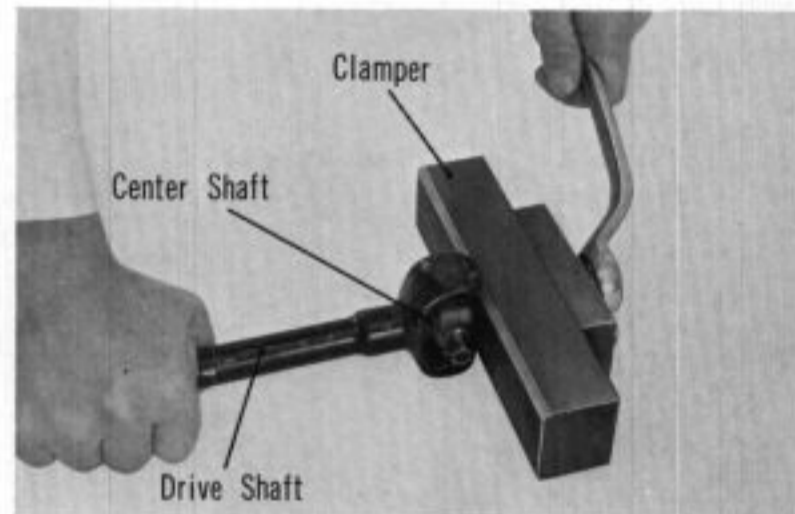

Fig. 9B-33
12. Set the center shaft clammer with the drive shaft, the center shaft adaptor and the center yoke fitting on the press, as shown in Fig. 9B-34.